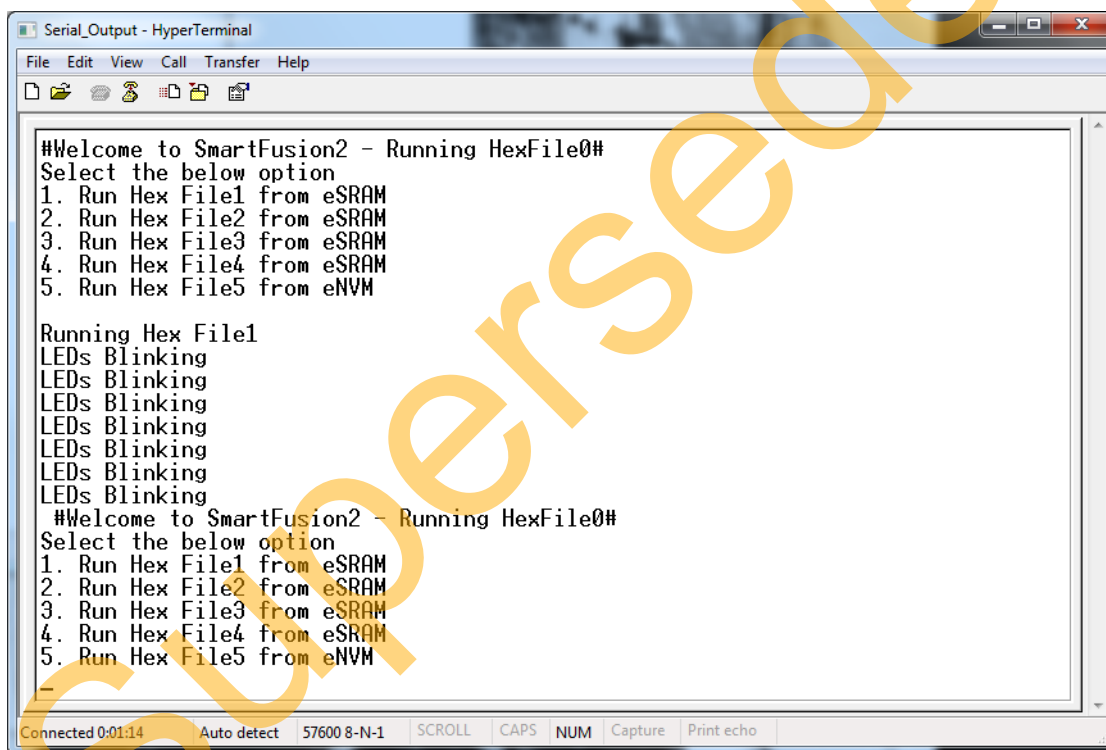

Figure 53 • LEDs Blink Based on User Option
9. Select option 1 as shown in Figure 53. The application image runs from eSRAM. E1, F4 LEDs blink on the Board.